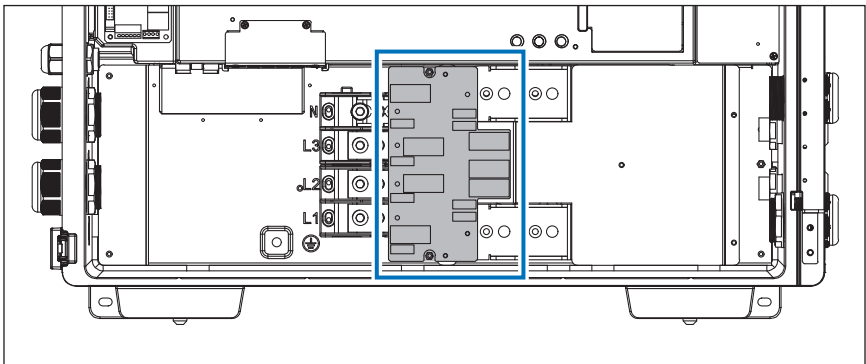

Figure 5-5: Remove the protective cover
3. Remove the protective cover and then appear SPD. (**Figure 5-5**)